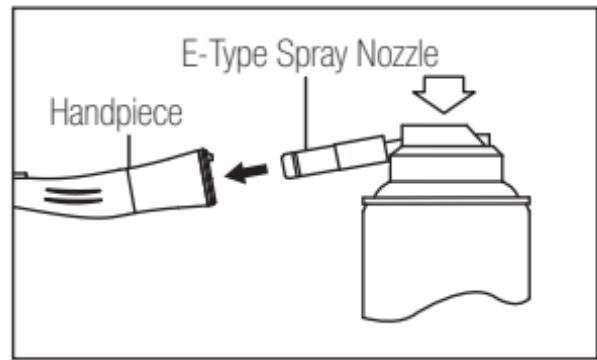

Fig. 10
- 3) Insert the Spray Nozzle in rear of the handpiece. Hold the handpiece and spray for approximately 2-3 seconds. Apply lubricant until it expels from the handpiece head for at least 2 seconds. (Fig. 10)
- 3) Lubricate handpiece by using NSK PANA SPRAY Plus (Fig. 10) or Care3 Plus.